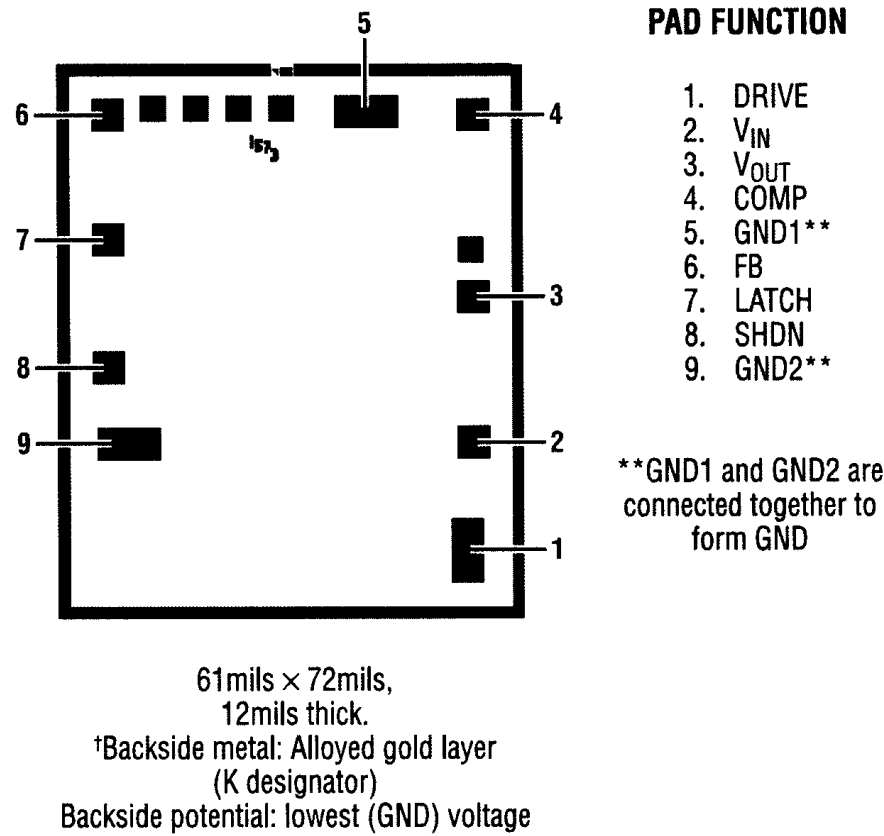

FIGURE 1
3.5 Design, Construction, and Physical Dimensions: Detail design, construction, physical dimensions, and electrical requirements shall be specified herein.3.6 Outline Dimensions and Pad Functions: Dice outline dimensions, pad functions, and locations shall be specified in **Figure 1**.3.7 Radiation Hardness Assurance (RHA):